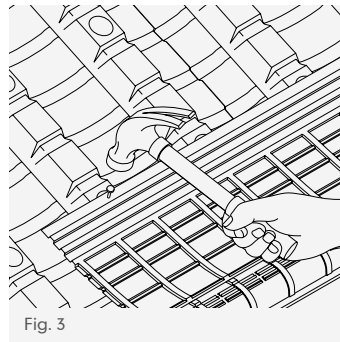

Fig. 3
- 5 Place felt support trays over the over fascia vent strips and nail to rafters, using 45mm x 3.35mm (10mm OFV) or 60mm x 3.35mm (25mm OFV) nails. (Fig 3).